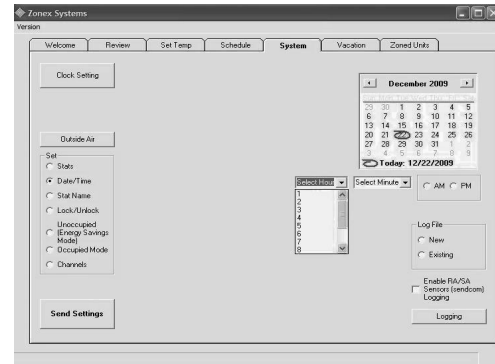

Fig. 12
1. Click on the **Date/Time** radio button (see Fig. 12), and a calendar will appear on the upper right of the screen.